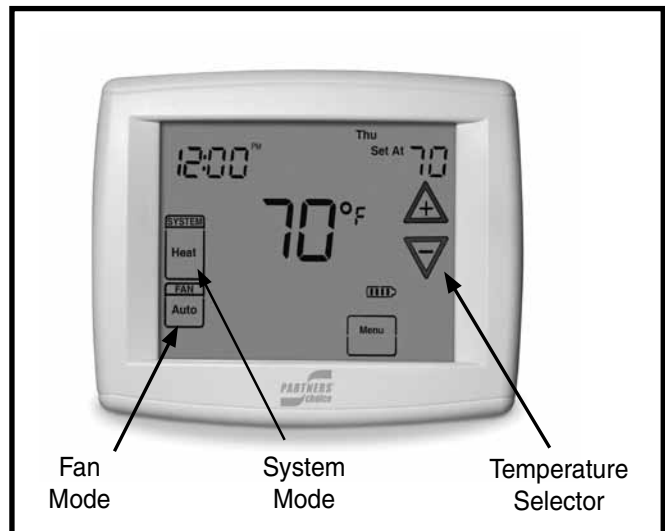

Figure 1. Digital Thermostat
1. Set the thermostat's system mode to COOL or AUTO and change the fan mode to AUTO. See Figure 1
1. Set the thermostat's system mode to HEAT or AUTO and change the fan mode to AUTO. See Figure 1.
1. Set the thermostat system switch to AUTO and the thermostat fan switch to AUTO. See Figure 1.
Set the thermostat fan mode to ON (Figure 1). The indoor blower starts immediately, and will run continually until the fan mode is reset to AUTO.
Change the thermostat's system mode to OFF and the fan mode to AUTO. See Figure 1. **NOTE:** The system will not operate, regardless of the temperature selector setting